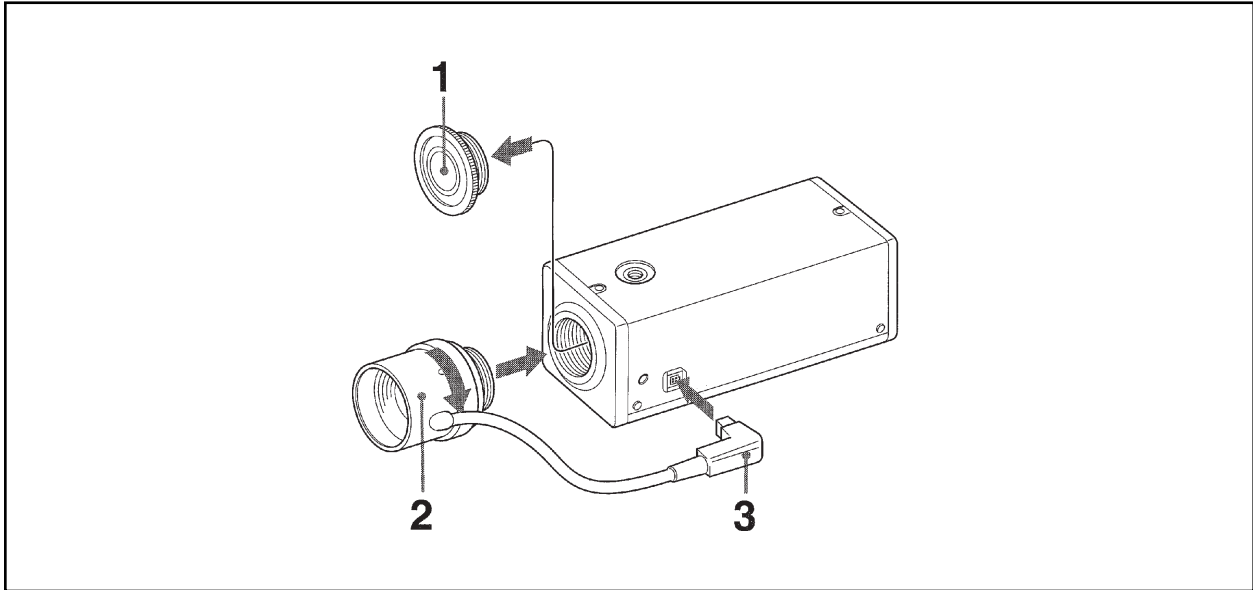

Figure 6. Lens Installation
6. When using an auto-iris lens, install it as follows. For a manual iris lens, omit step c. Refer to Figure 6.
- a. Unscrew the lens mount cap (1).
- b. Screw in the lens (2).
- c. Plug in the lens cable (3).